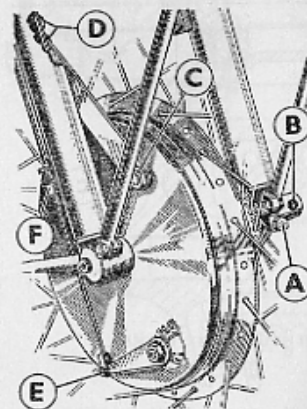

Fig. 13. Front Wheel Removal (190 mm. and 8 in.)
To detach the wheel first disconnect the brake cable by pushing it out of the brake clip at (E) Fig. 13, and unscrewing it from the bracket at (F). Remove the torque arm nut (C) and undo the pinch bolt (A). Insert a tommy bar in the hole in the head of the spindle at (B) and unscrew the spindle, noting that it has a left-hand thread and therefore unscrews in a clockwise direction. Support the wheel as the spindle is withdrawn, and when it is clear the wheel can be pulled away from the right-hand fork leg and removed from the machine.